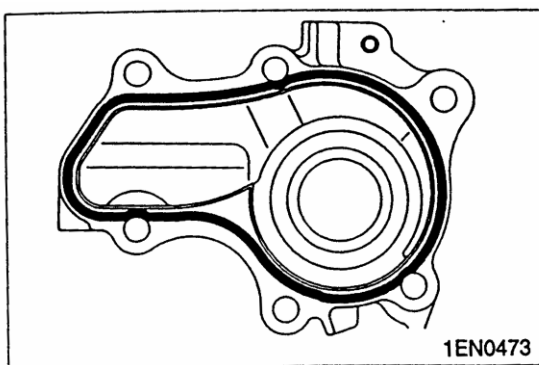

Fig.4-19
(1) THE INSTALLATION STEPS OF WATER PUMP(see Fig.4-19)